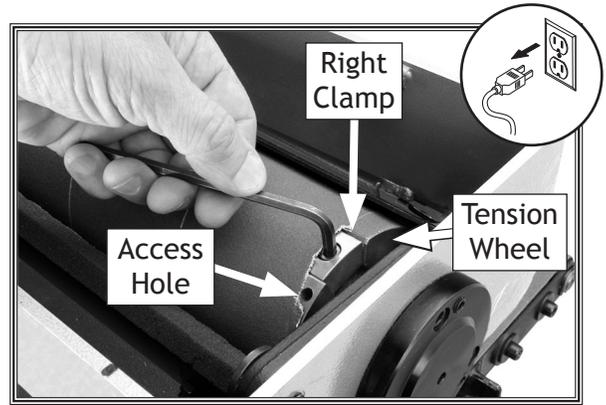

Figure 17. Loosening cap screw on right spring-loaded clamp.
2. Open top cover and loosen cap screw on right spring-loaded clamp, as shown in Figure 17.